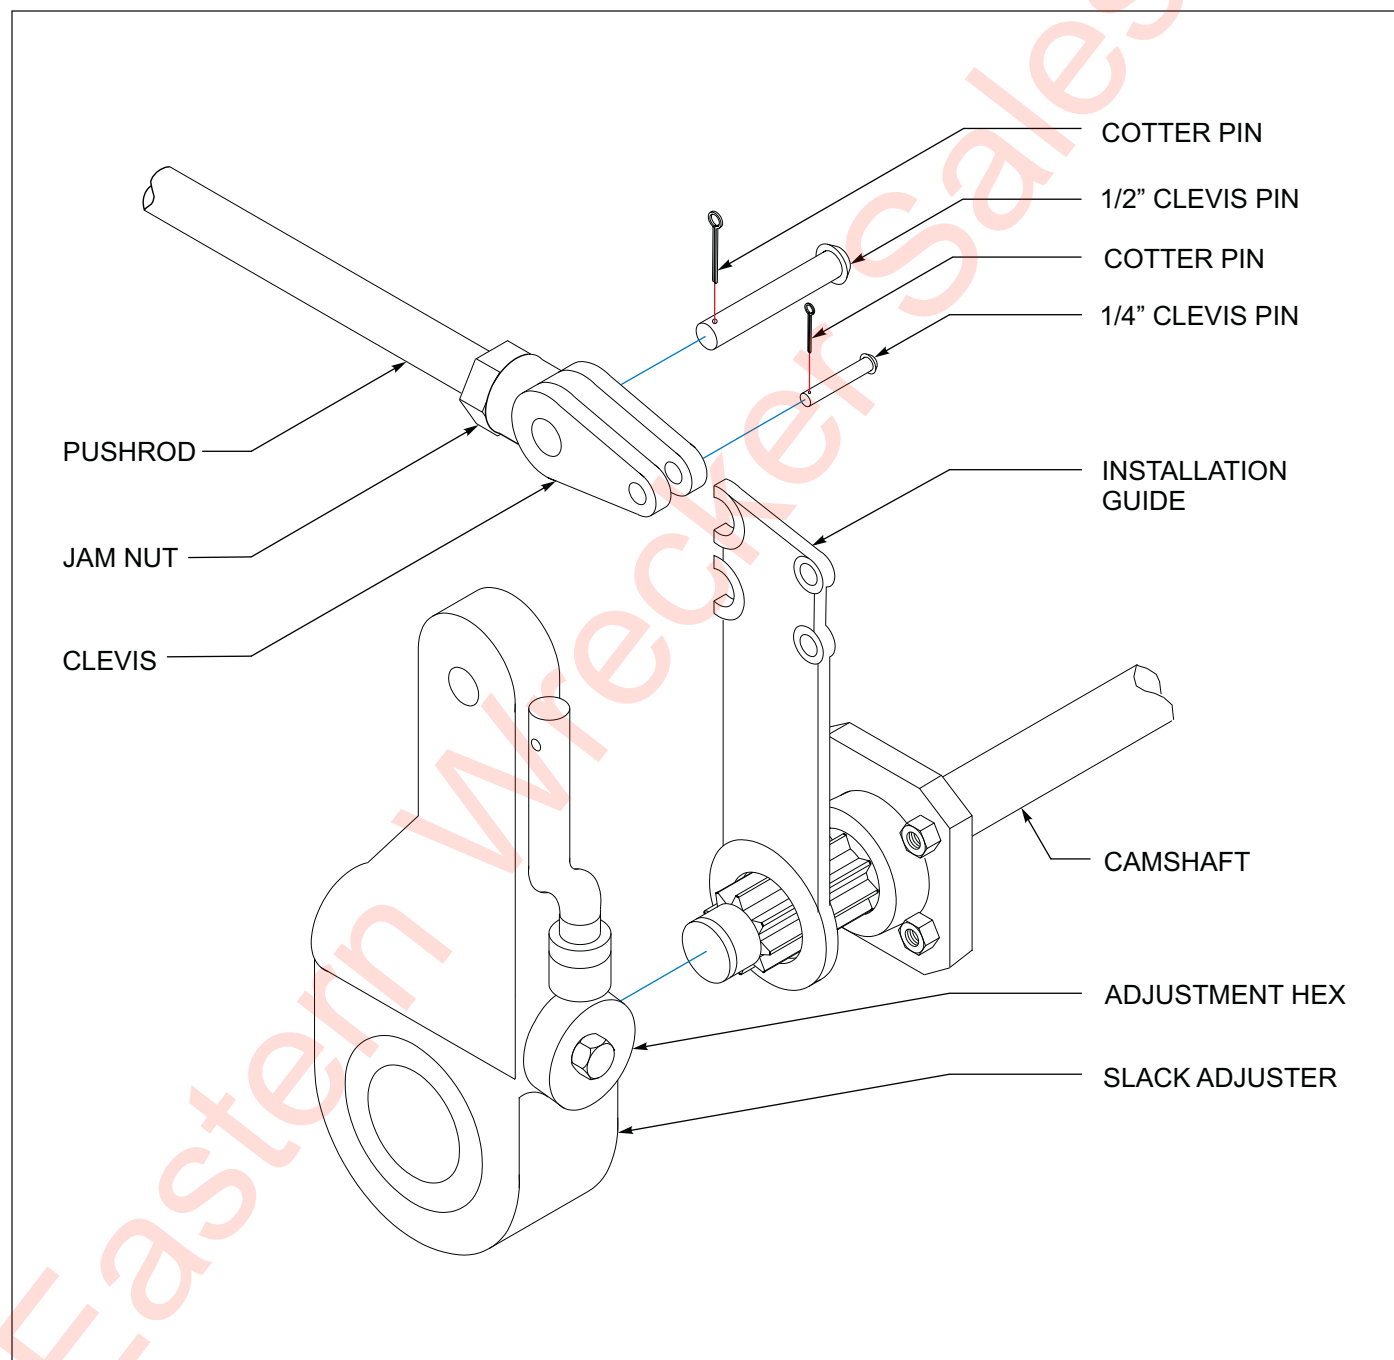

Figure 4-17: Slack Adjuster
2. Check that the push rod is fully retracted, apply air to release spring brake (See Figure 4-17.)